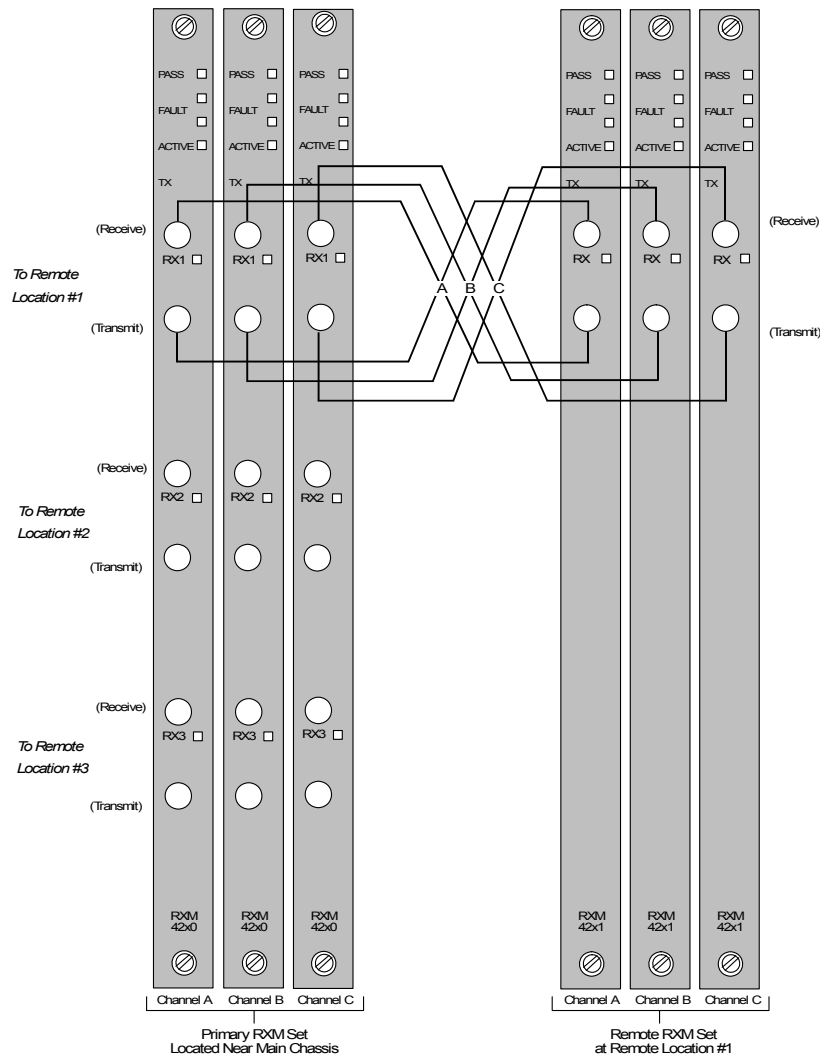

Figure 94 Simplified Fiber-Optic Wiring for One Remote Location
- 4 Connect each RXM Chassis at remote locations with the RXM Chassis located near the Main Chassis using fiber-optic cables to connect to the Transmit and Receive paths for each channel. This connection can be as far as 7.5 miles (12 kilometers) from the Main Chassis. See Figure 94 for a diagram of this wiring.